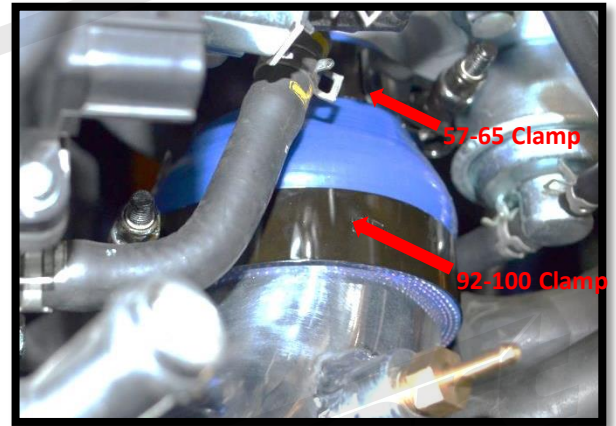

Figure 5a
- 3) Connect the 2.25" diameter silicone coupling over the end of the turbocharger compressor inlet, taking care to keep the loose hose clamp in place (shown in Figure 5a). This should fit easily - if not, the T-bolt clamp is probably too tight or is interfering.
- 3) Connect the 4" diameter silicone coupling over the end of the turbocharger compressor inlet, taking care to keep the loose hose clamp in place (shown in Figure 5a). This should fit easily - if not, the T-bolt clamp is probably too tight or is interfering.